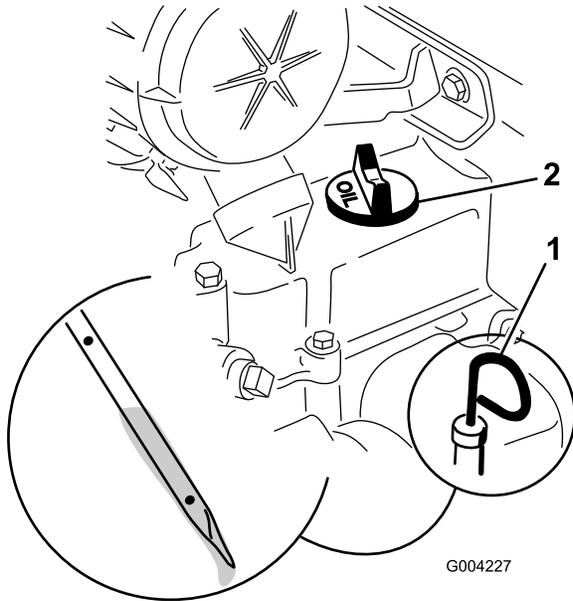

Figure 11
4. Clean around the oil dipstick (Figure 11).
5. Pull out the dipstick and wipe the metal end clean (Figure 11).
6. Slide the dipstick fully into the dipstick tube (Figure 11).
8. If the oil level is low (below the bottom hole), clean around the oil filler cap and remove the cap (Figure 11).